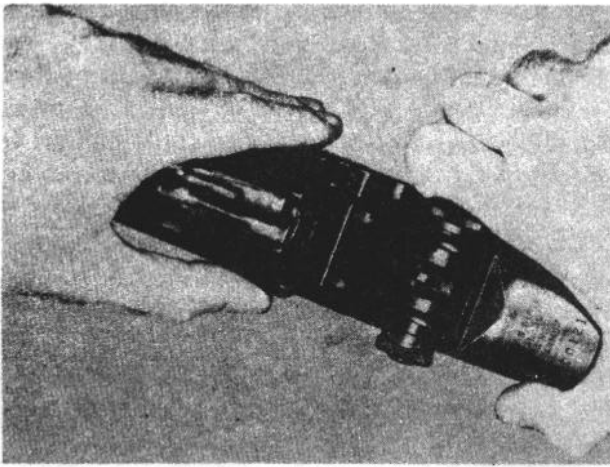

Figure 22. Unloading a filled or partially filled clip.
b. To unload a filled or partially filled clip, unload the round that is in the chamber as described in *a* above. When the operating rod reaches its rearmost position, hold it there. Place the palm of the left hand over the receiver and depress the clip latch with the left thumb, allowing the clip to be ejected up into the hand (fig. 22). Do not relax the rearward pressure on the operating rod handle until after the clip has been removed.